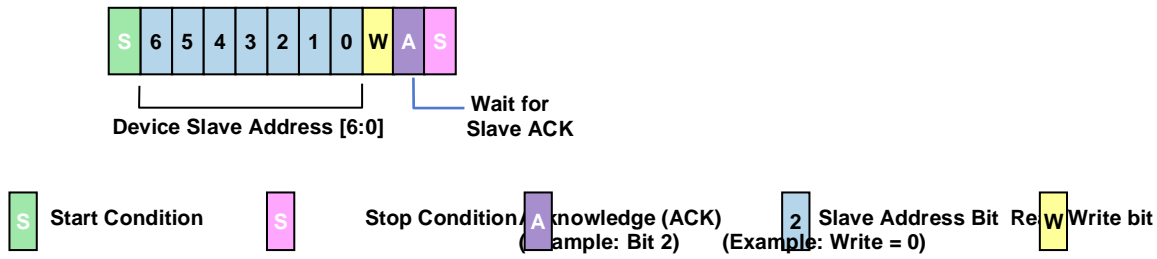

Figure 21. I2C MR
Figure 21, the communication contains only the slave address and the WRITE bit (0) sent by the master. After the ZSSC3123 responds with the slave ACK, the master creates a stop condition.